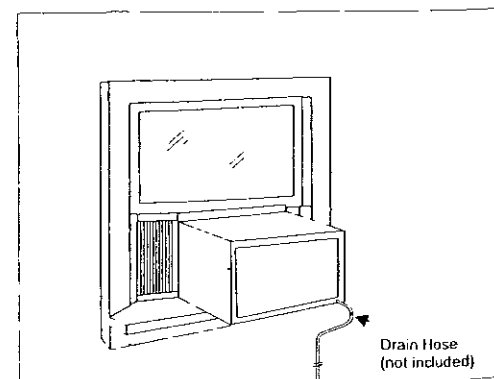

Fig 19
G A drain connection (excluding hose) is provided. If you need to redirect condensation overflow, see (Fig. 19 on Page 11).
C. In very humid areas, the water removal may be excessive enough to overflow the unit or increase the noise of the air conditioner. If this occurs, you may wish to attach a **drain hose (not included)** to the drain plug, allowing condensations to run off conveniently. See (Fig 19).